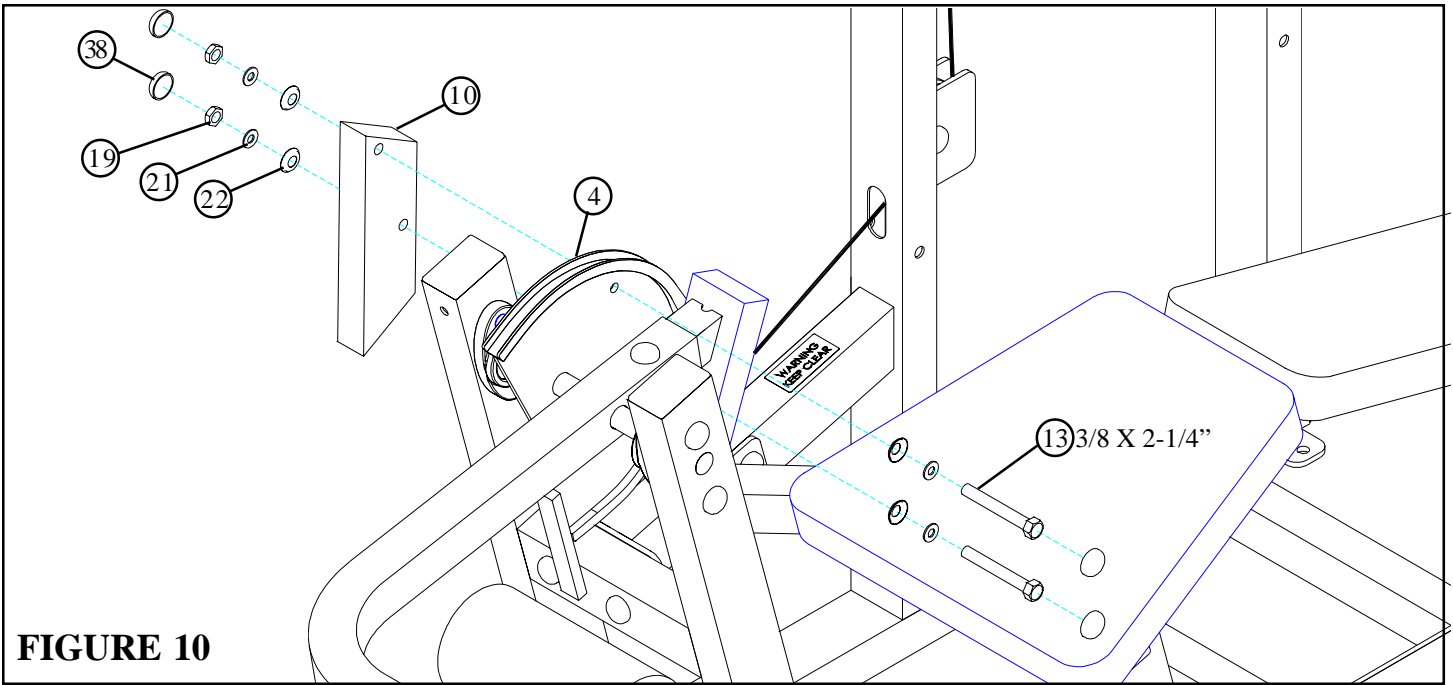

FIGURE 10
- **SECURELY** assemble the CAM COUNTER BALANCE (10) to the PIVOT ARM (4) using four RH CAPS (38), two 3/8 X 2-1/4" BOLTS (13), four 3/8" SAE WASHERS (21), four 3/8" RH WASHERS (22) and two 3/8" LOW HEIGHT LOCK NUTS (19) as shown in FIGURE 10.